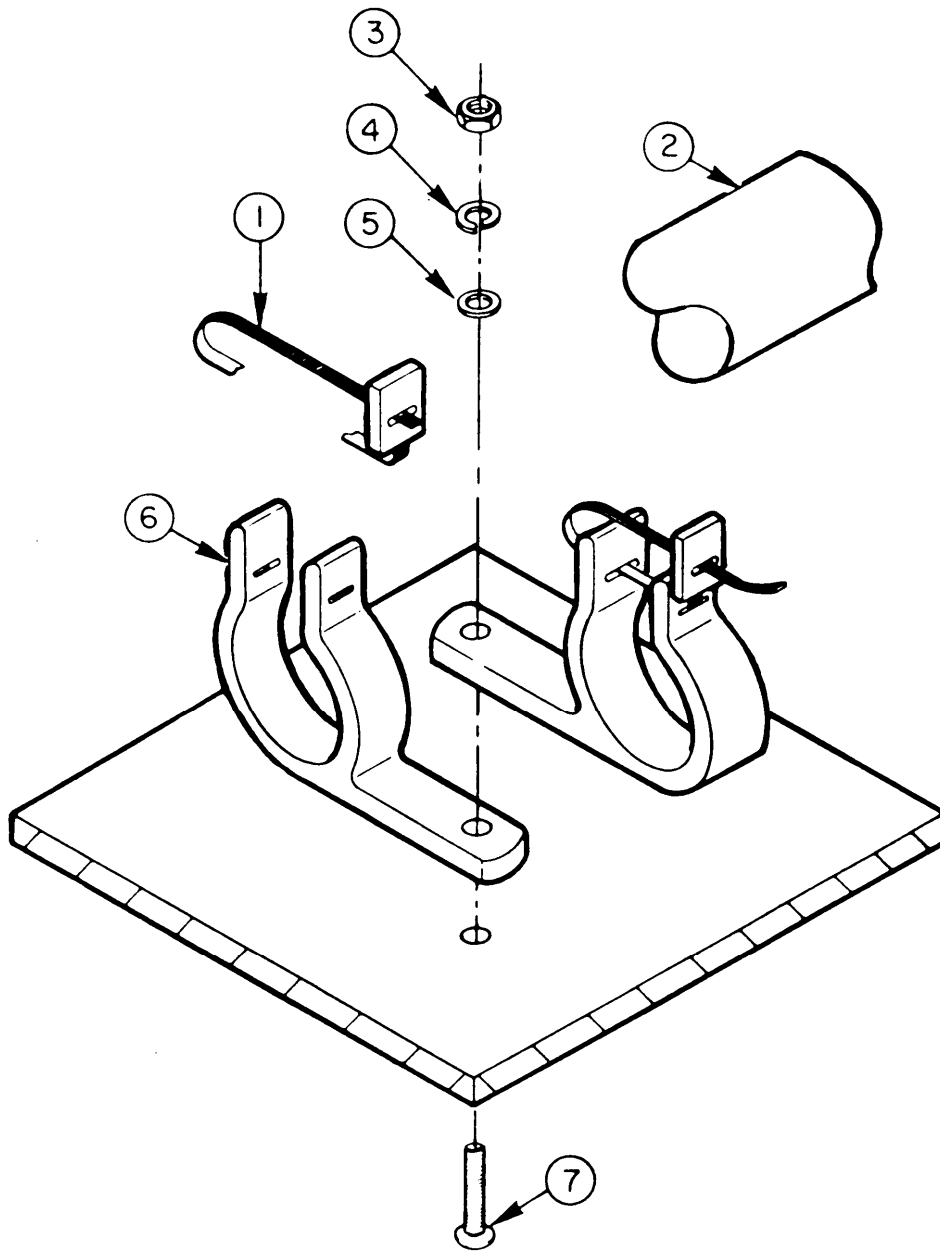

Figure 2-72. Junction Box, Wire Harness/Cable, Clamp
b. Junction Box. Wire Harness/Cable Clamp. (Figure 2-72)
- (1) Replace all damaged nuts, bolts, screws, and washers.
- (2) Replace used cable clamps.
- (3) Replace damaged or worn electrical wires or wire harness assembly.
h. Installation, Junction Box Assembly, Wire Harness/Cable, Clamps. (Figure 2-72)
Use new tiedown straps when installing the clamps. (Figure 2-72).